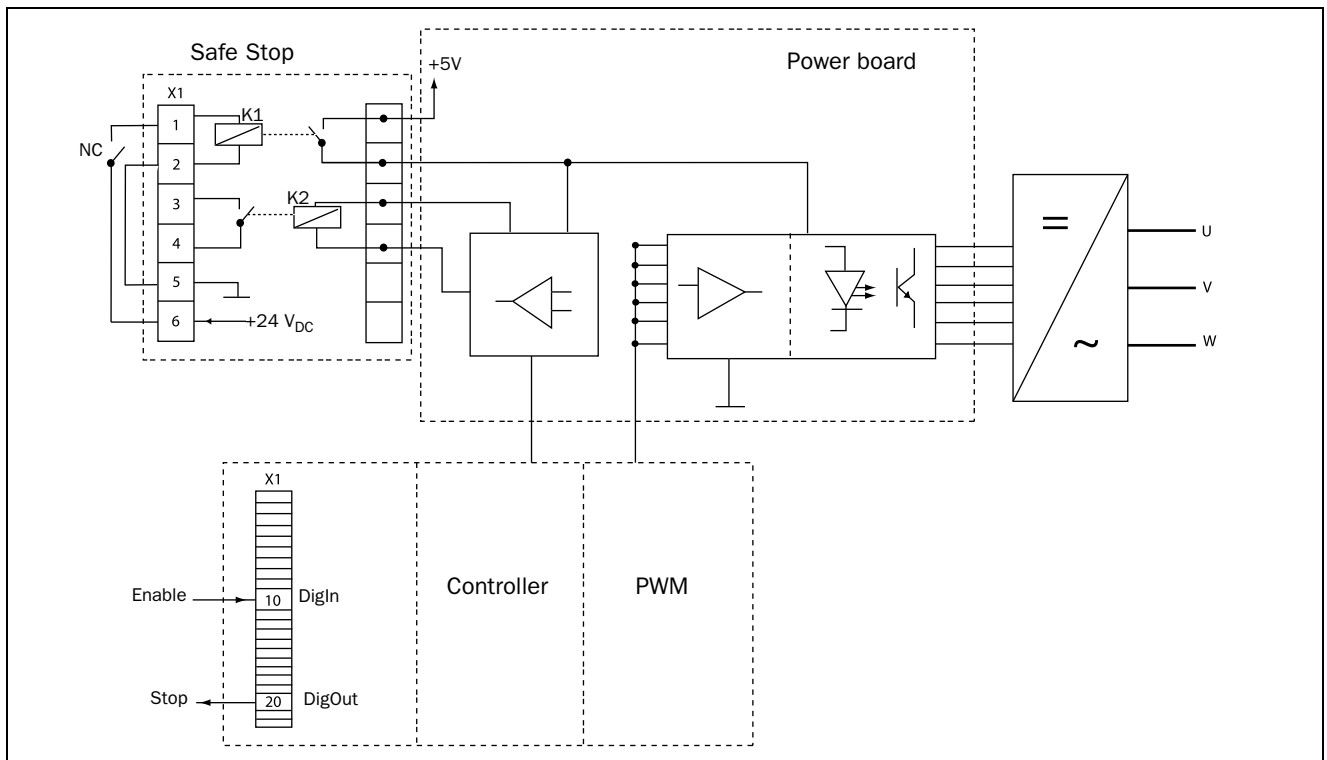

Fig. 173 Safe Stop connection
- "Inhibit" input, terminals 1 (DC+) and 2 (DC-) on the Safe Stop option board should be made active by connecting  $24 V_{DC}$  to secure the supply voltage for the driver circuits of the power conductors via safety relay K1. See also Fig. 173.